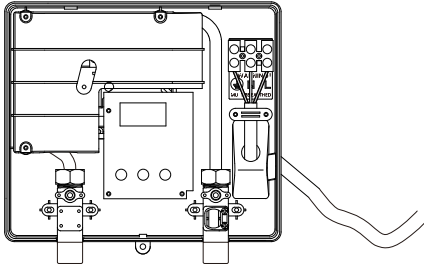
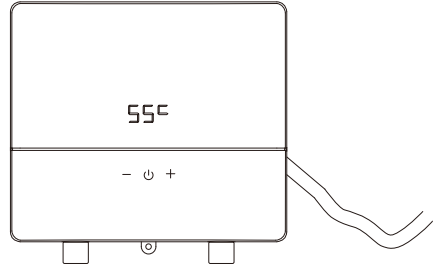

Figure 4
Figure 5
Step 3: Connect the power cable to the terminals marked L (Phase), N (Neutral) and E (Earth) at the indicated positions (Figure 4). Mount the cover and tighten the screws. Ensure that cables and wires of the correct size are installed to avoid smoke development and fire hazard (Figure 5).